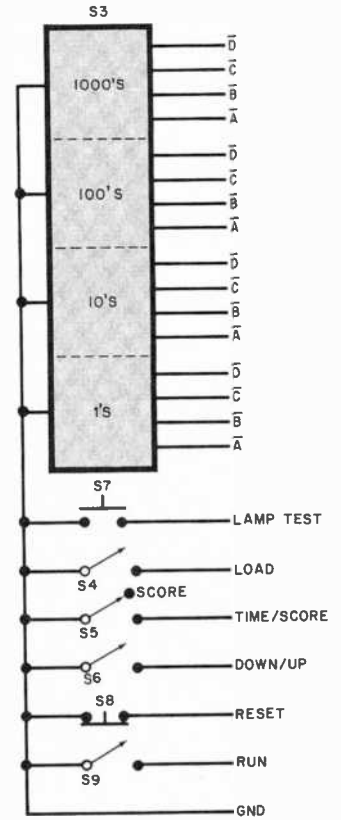

Fig. 2. Control box determines operation of the system. Connection to rest of system is through multiconductor cable.
**Control Box.** The control switches for the various functions are shown in Fig. 2. All of the circuits to which they are connected are terminated in resistors connected to the +5-volt line.